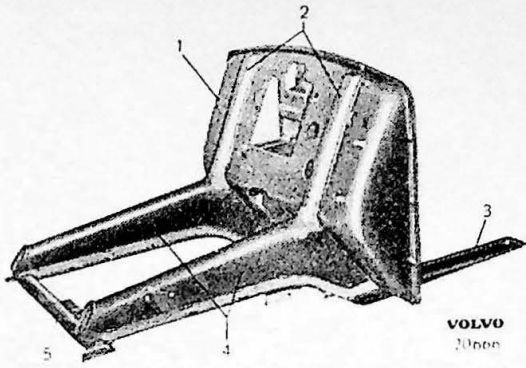

Fig. 4.
The mounting plate (1, Fig. 4) forms the front wall of the body and is constructed as a sloping recessed partition. The bottom of this forms the toeboard and the sides form the forward section of the cowl. Two side members (4) extend forwards and are connected through a tubular cross member (5). To the rear, these side members divide and form reinforcement members